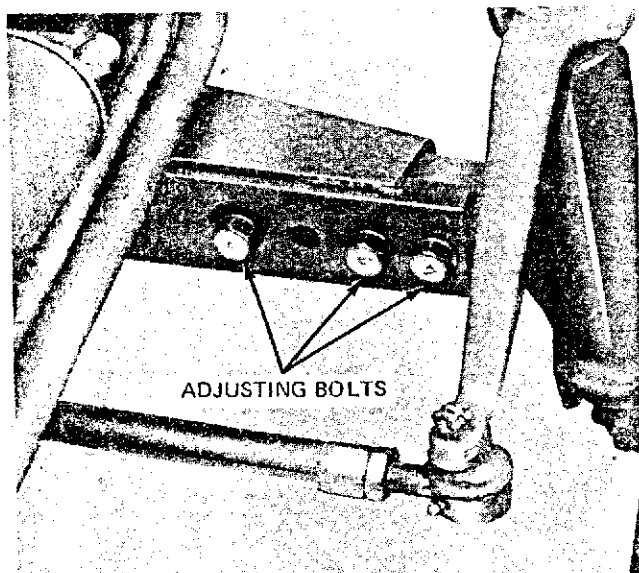

Figure 21 — Front Wheel Tread Settings
With the optional adjustable front axle, the tread setting is adjustable from 37 to 47.6 in. (94-121 cm) by a combination of repositioning the front axle and reversing the front wheels. See Figure 21. To reposition the front axle:
3. Remove the positioning bolts, Figure 21, and move the axle sections in or out until the desired setting is obtained, then reinstall the positioning bolts.